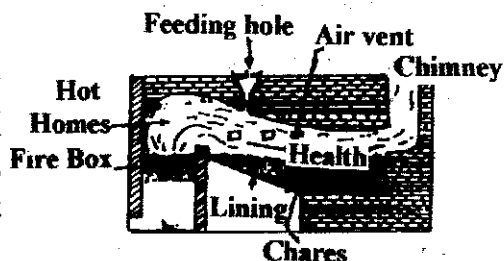

Fig. 23.5: Liquation in Reverberatory furnace.
- (i) **Liquation:** Easily fusible metals like tin, lead etc. are refined by this process. In this method, the impure metal is poured on the sloping hearth of a reverberatory furnace (Fig 23.5) and heated slowly to a temperature little above the melting point of the metal. The pure metal drains out leaving behind infusible impurities on the hearth.